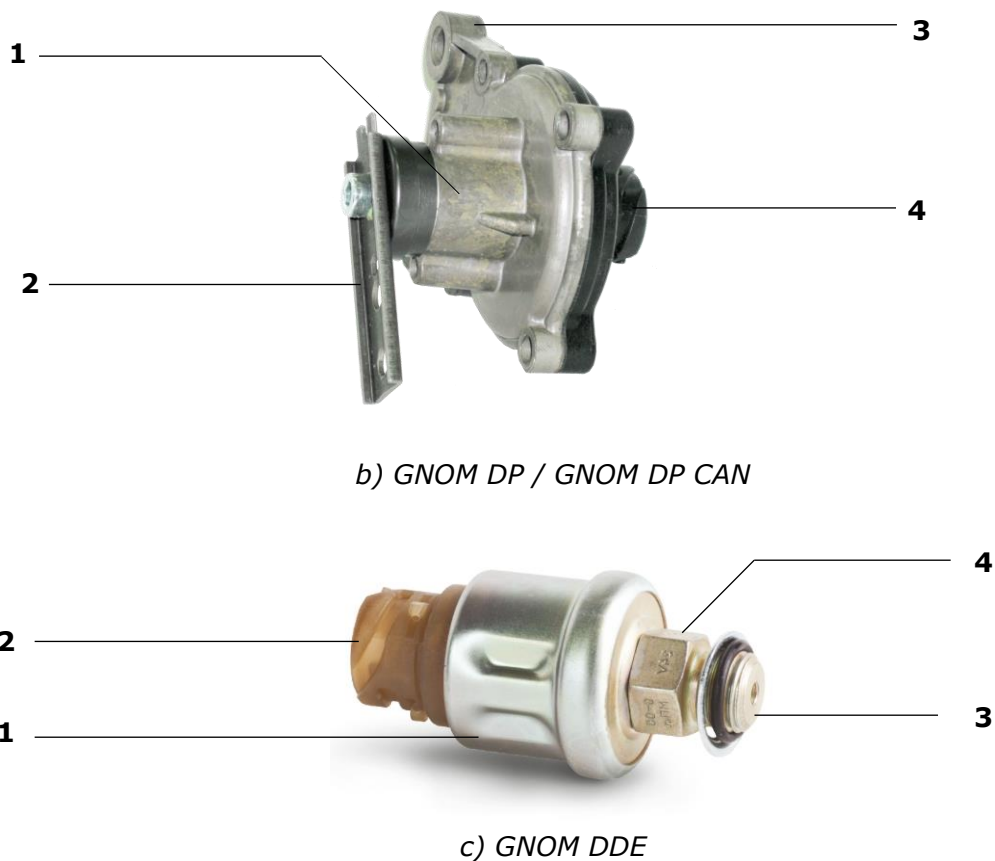

Figure 10 – Components of axles load sensors
1) GNOM DP A / GNOM DP / GNOM DP CAN position sensor consists of the measuring unit **(1)** which contains the angle shift magnetoresistive transducer of the pivot lever, the pivot lever **(2)**, mounting bracket **(3)** and power supply connector **(4)**. The particularity of GNOM DP A model design is that the power supply connector is located at the end of the sensor interface cable **(5)** (see figures 10 a, b).
2) GNOM DDE pressure sensor consists of the measuring unit **(1)** with the tensoresistive pressure transducer located inside, power supply connector **(2)**, inlet thread fitting **(3)** for compressed air with a mounting nut **(4)** (see figure 10 c).